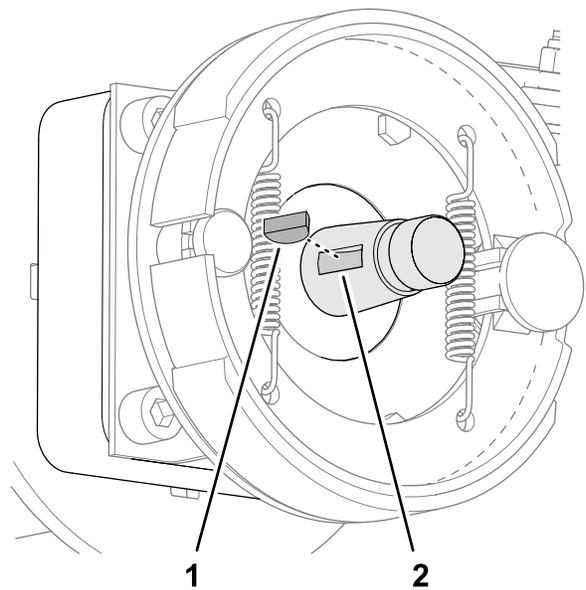

Figure 85
2. Insert the woodruff key into the groove of the wheel-motor shaft (Figure 85).